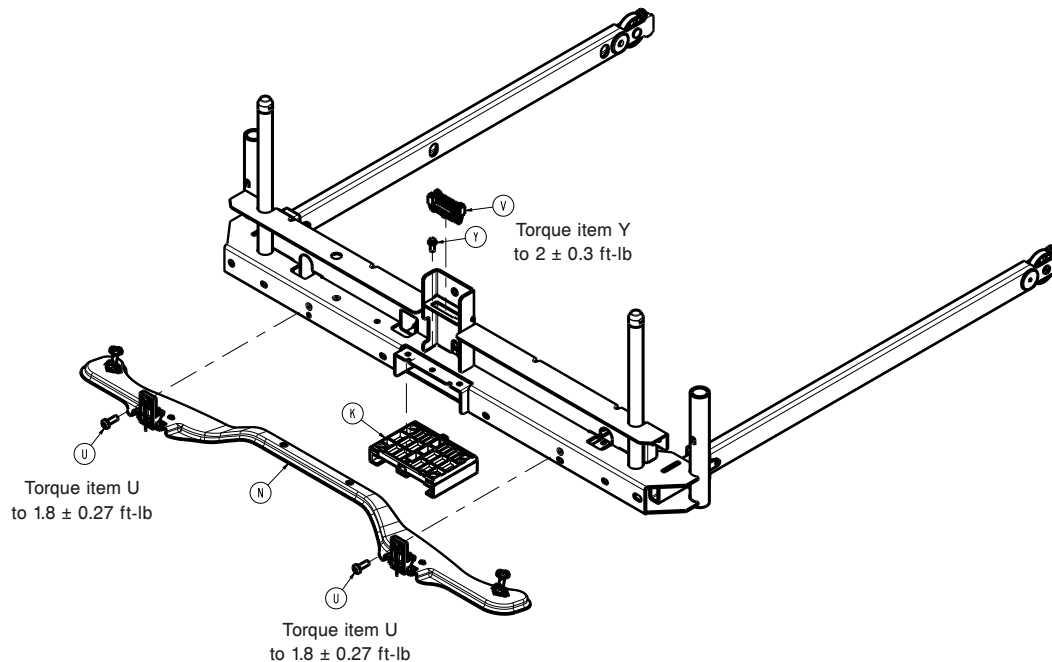

Figure 39 – Replacing the footboard litter connector
12. Unclip the cable from the blind mate connector (V) (Figure 39).
13. Squeeze the left and right blind mate connector (V) locking tabs to release the connector from the foot end frame (Figure 39).